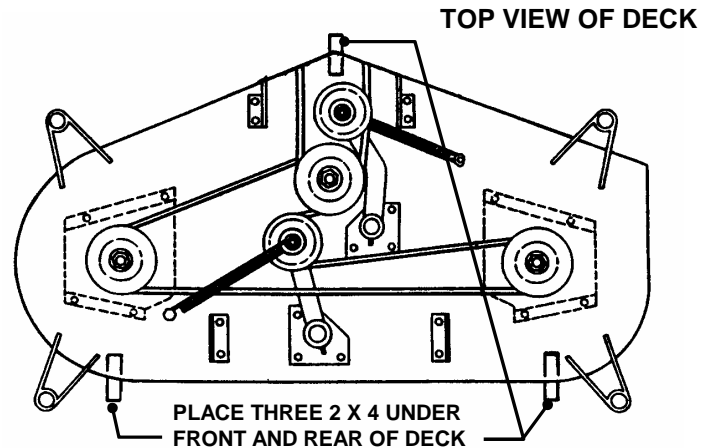

FIGURE 4.5
2. Rotate outside blades so tips are pointed to the sides of deck. See Figure 4.5. Measure the distance from blade tips to floor. If the measurement is within  $1/8"$  from side-to-side, the deck levelness is satisfactory. If the difference from side-to-side is greater than  $1/8"$ , continue to next step for adjustment.
3. Place a 2 x 4 piece of wood under the front middle portion of deck. Place one 2 x 4 piece of wood under the rear of deck on both sides behind the two outside blades. See Figure 4.5.